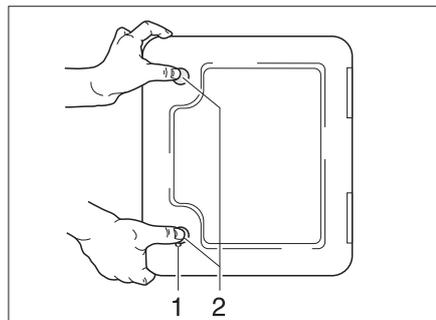

Fig. 160 Flap for Thetford cassette
The flap for the Thetford cassette (Fig. 160) is located on the outside of the vehicle.
- Insert key into locking cylinder of the push-button lock (Fig. 160,1) and turn a quarter turn clockwise.
- Press both push-button locks (Fig. 160,2) simultaneously with your thumb and open the flap for the Thetford cassette.